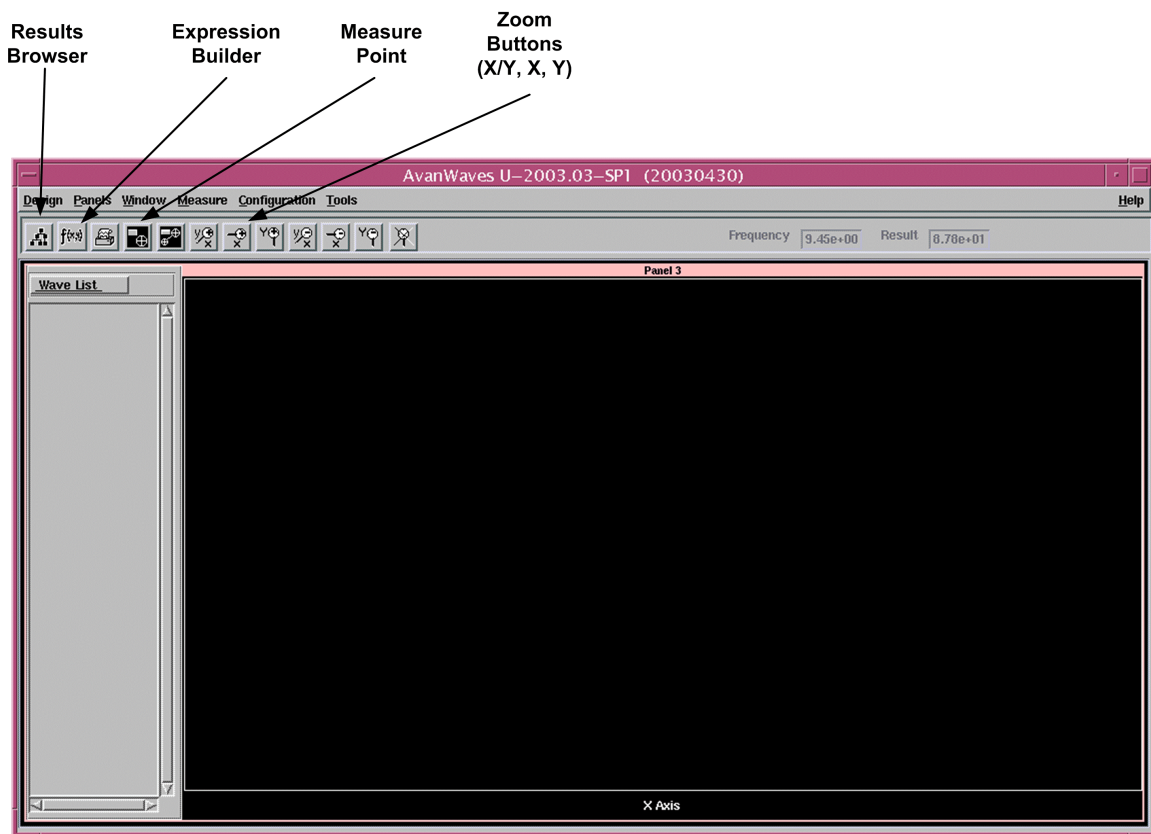

Fig. 3. Awaves window with annotation
2. The program AvanWaves will be used to view the output. Fig. 3 shows a blank Awaves window with several important buttons annotated. To launch AvanWaves type at the command line